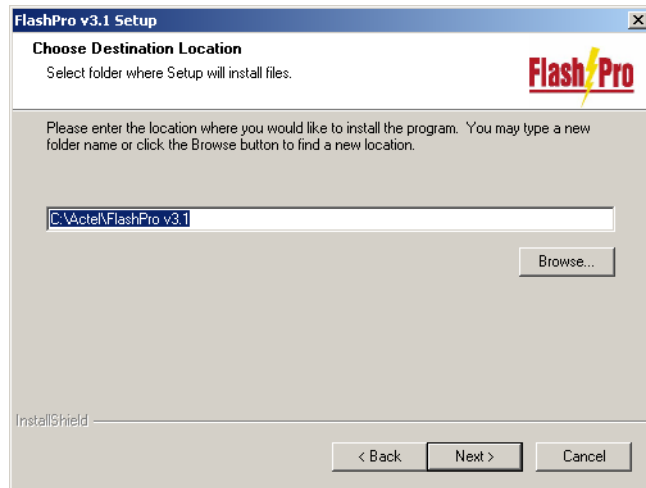

Figure 1-3. FlashPro Destination Location
4. Click **Next** to install FlashPro to the destination folder, as shown in Figure 1-3. To install to a different folder, click *Browse* and